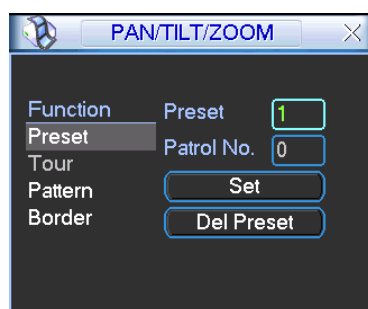
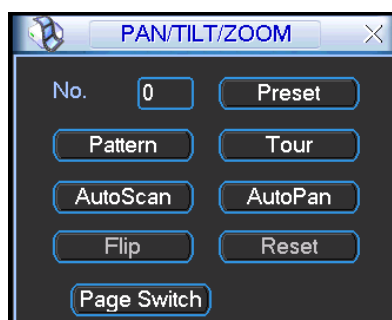
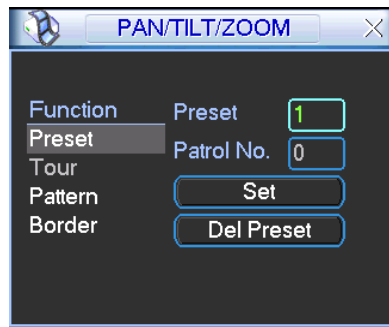

Figure 4-39
Figure 4-40
Figure 4-41
In Figure 4-36, please click the “set” button. The interface is shown as below. See Figure 4-39. Here you can set the following items:
In Figure 4-36, click page switch button, the interface is shown as in Figure 4-40. Here you can activate the following functions:
- The following setups are usually operated in the Figure 4-36, Figure 4-39 and Figure 4-40.
In Figure 4-39, click preset button and input preset number. The interface is shown as in Figure 4-41.
In Figure 4-40, please input preset number in the No. blank, and click preset button.
In Figure 4-39, input patrol (tour) number in the No. blank and click patrol button
In Figure 4-39, click pattern button and then click “begin” button. The interface is shown as in Figure 4-43. Then you can go to Figure 4-36 X to modify zoom, focus, and iris.
In Figure 4-39, input mode value in the No. blank, and click pattern button.
In Figure 4-40, click "Auto Scan" button, the system begins auto scan. Correspondingly, the auto scan button becomes Stop button. Click stop button to terminate scan operation.
In Figure 4-40, click page switch button, you can see an interface is shown as below. See Figure 4-45. Here you can set auxiliary function. The aux value has relation ship with the Aux button of the decoder.